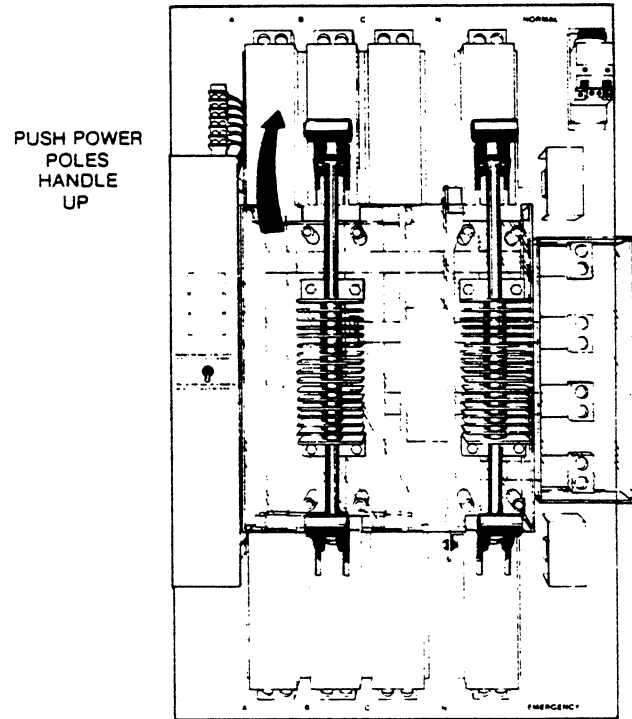

FIGURE 13.
3. Push the upper power pole handle up, as in Figure 13, connecting the load to the normal power source. This completes the manual retransfer switching sequence.